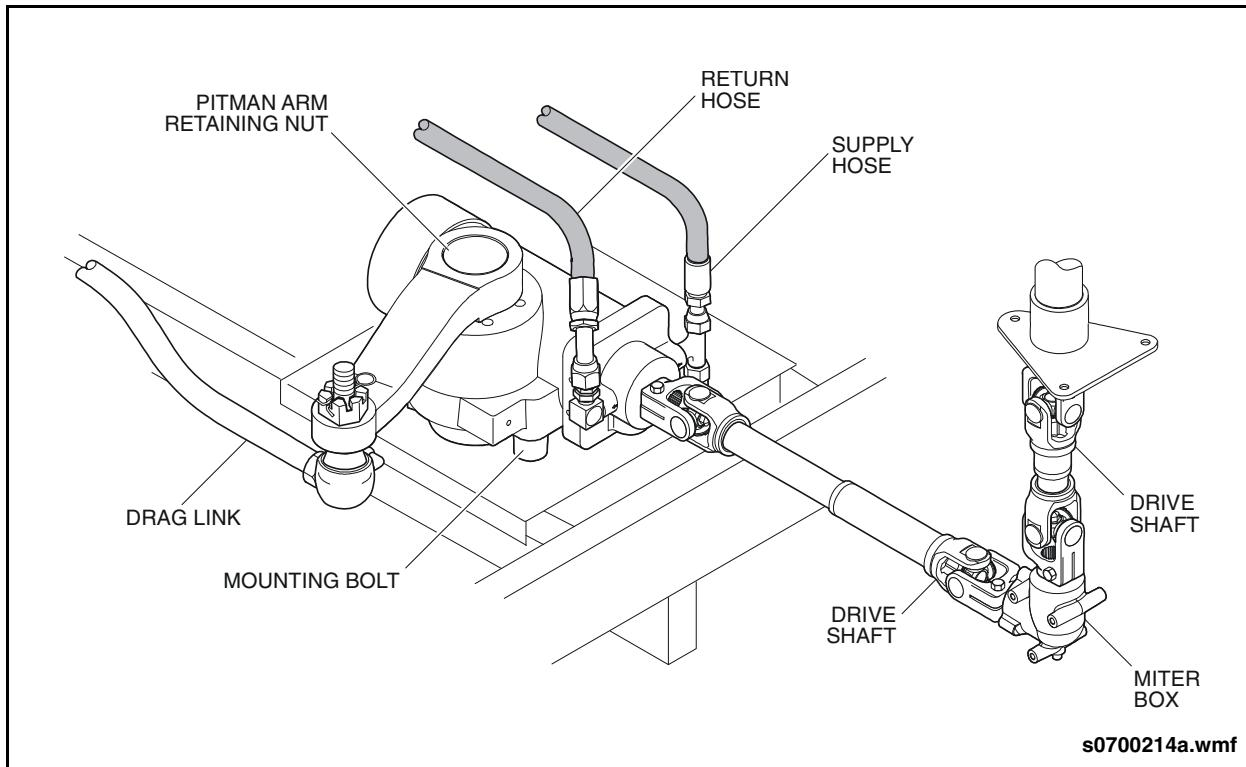

Fig. PM-6: Steering Gear Inspection
- Visually inspect all steering components for any evidence of damage. See “Fig. PM-6: Steering Gear Inspection” on page 30.